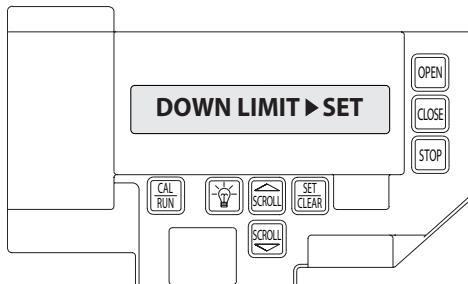

Figure 8
- 4) Press SET/CLEAR  key to switch display to "UP LIMIT>SET" or "DOWN LIMIT>SET." **Figure 8**.
- 2) Press SCROLL  until display reads "UP LIMIT>SET" or "DOWN LIMIT>SET." **Figure 8**.